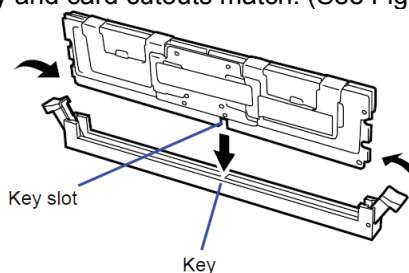

Fig. 2
- (2) Memory card installation procedure
- b. The memory card has cutouts to prevent incorrect insertion. Please orient the card so that the connector polarity and card cutouts match. (See Fig. 2.)
- c. Insert the card vertically on the connector. Press the levers at each end of the connector so that they fasten the half-circle shaped cutouts on each edge of the card. (See Fig. 2.)